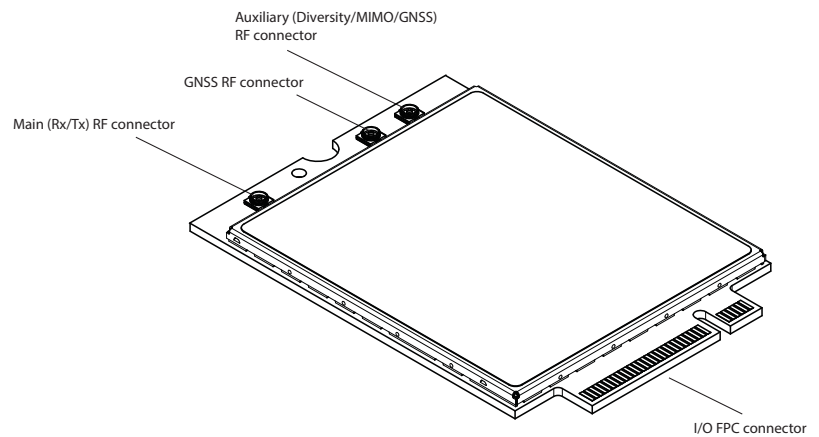

Figure 4-1: Module connectors
- Connect to system ground using the mounting hole shown in Figure 4-1 on page 39.